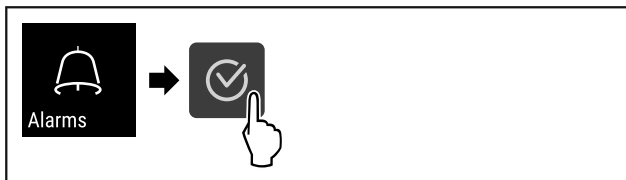

Fig. 118
- ▶ Complete steps (see Fig. 118) .